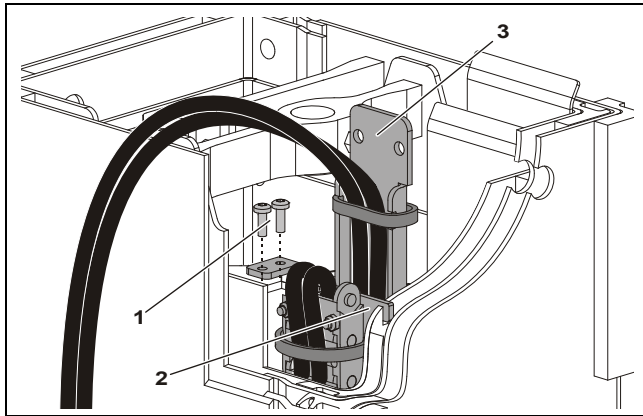

Figure 6-13. Power-Trak - Removal
5. At the top of the mast assembly, install the power-trak assembly into the power-trak compartment of the mount/inner mast section. (See Figure 6-13.)
6. Attach the power-trak hanger bracket to the mount/inner mast section. (See Figure 6-13.)
- At the top of the mast, if reinstalling the power-trak, reach down into the power-trak compartment and pull the power-trak assembly up, attach the hanger bracket to the top of the mast assembly. (See Figure 6-13.)